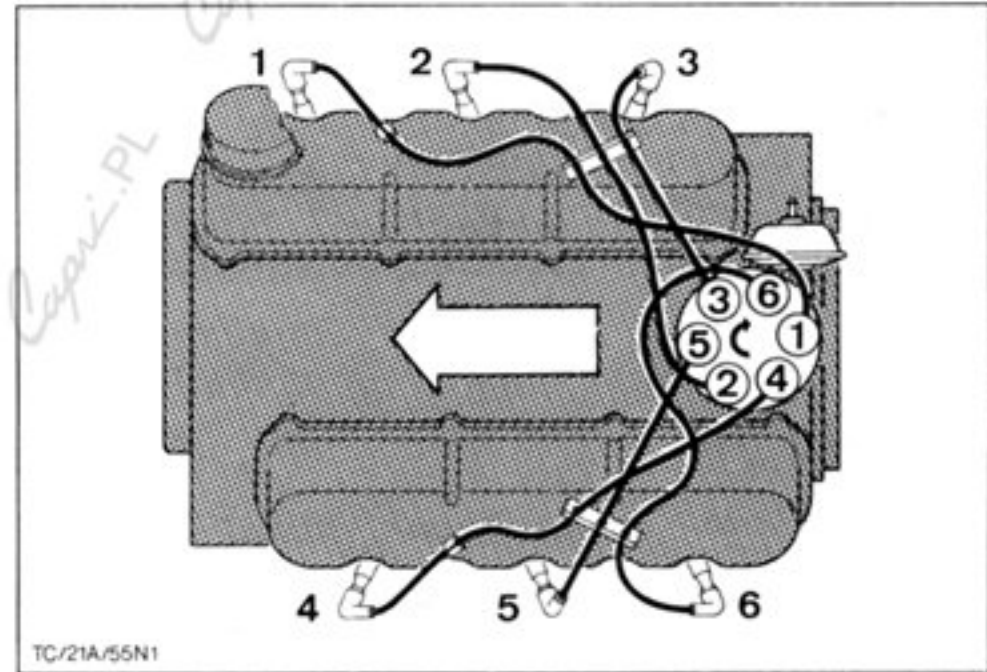

Fig.74. Arrangement of HT leads (firing order).
78. Fit spark plugs and tighten to specified torque. Fit distributor cap and attach HT leads to the spark plugs in the order shown, Fig.74.